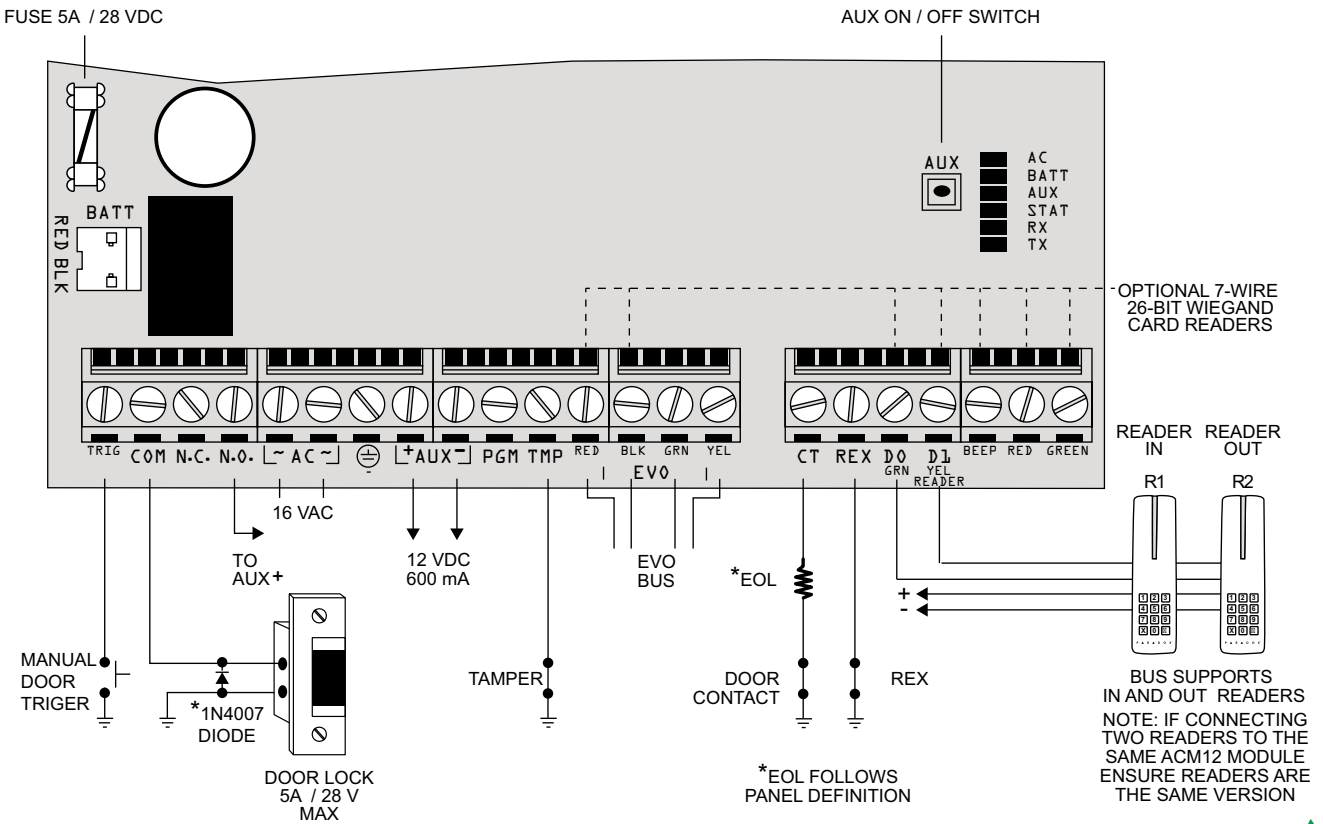

Figure 1
### Installation (Figure 1)
**Unlock Device Diode:** When connecting a locking device, it is recommended to connect diode 1N4007 as per Figure 1, to keep the relay contacts reliability.